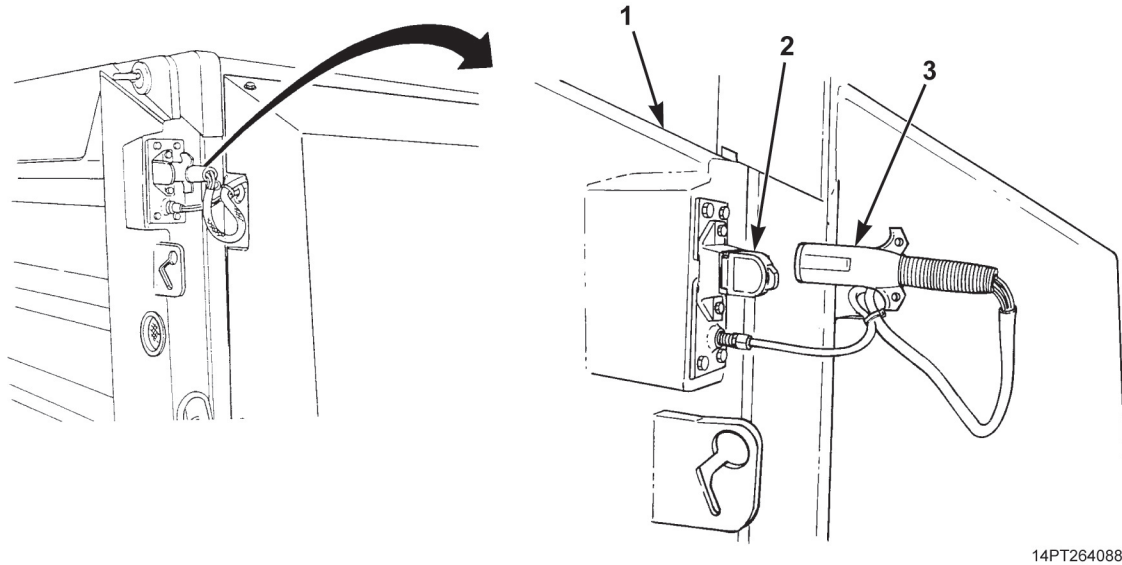

Figure 6. Wiring Harness Installation.
4. Connect wiring harness connector (Figure 6, Item 3) to truck-to-MCS tailgate wiring harness receptacle (Figure 6, Item 2) at driver's side dump body pillar (Figure 6, Item 1).